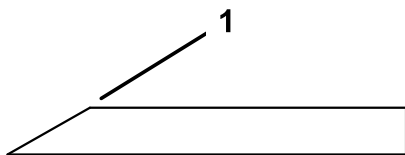

Figure 40
1. Use a file to sharpen the cutting edge at both ends of the blade (Figure 40).